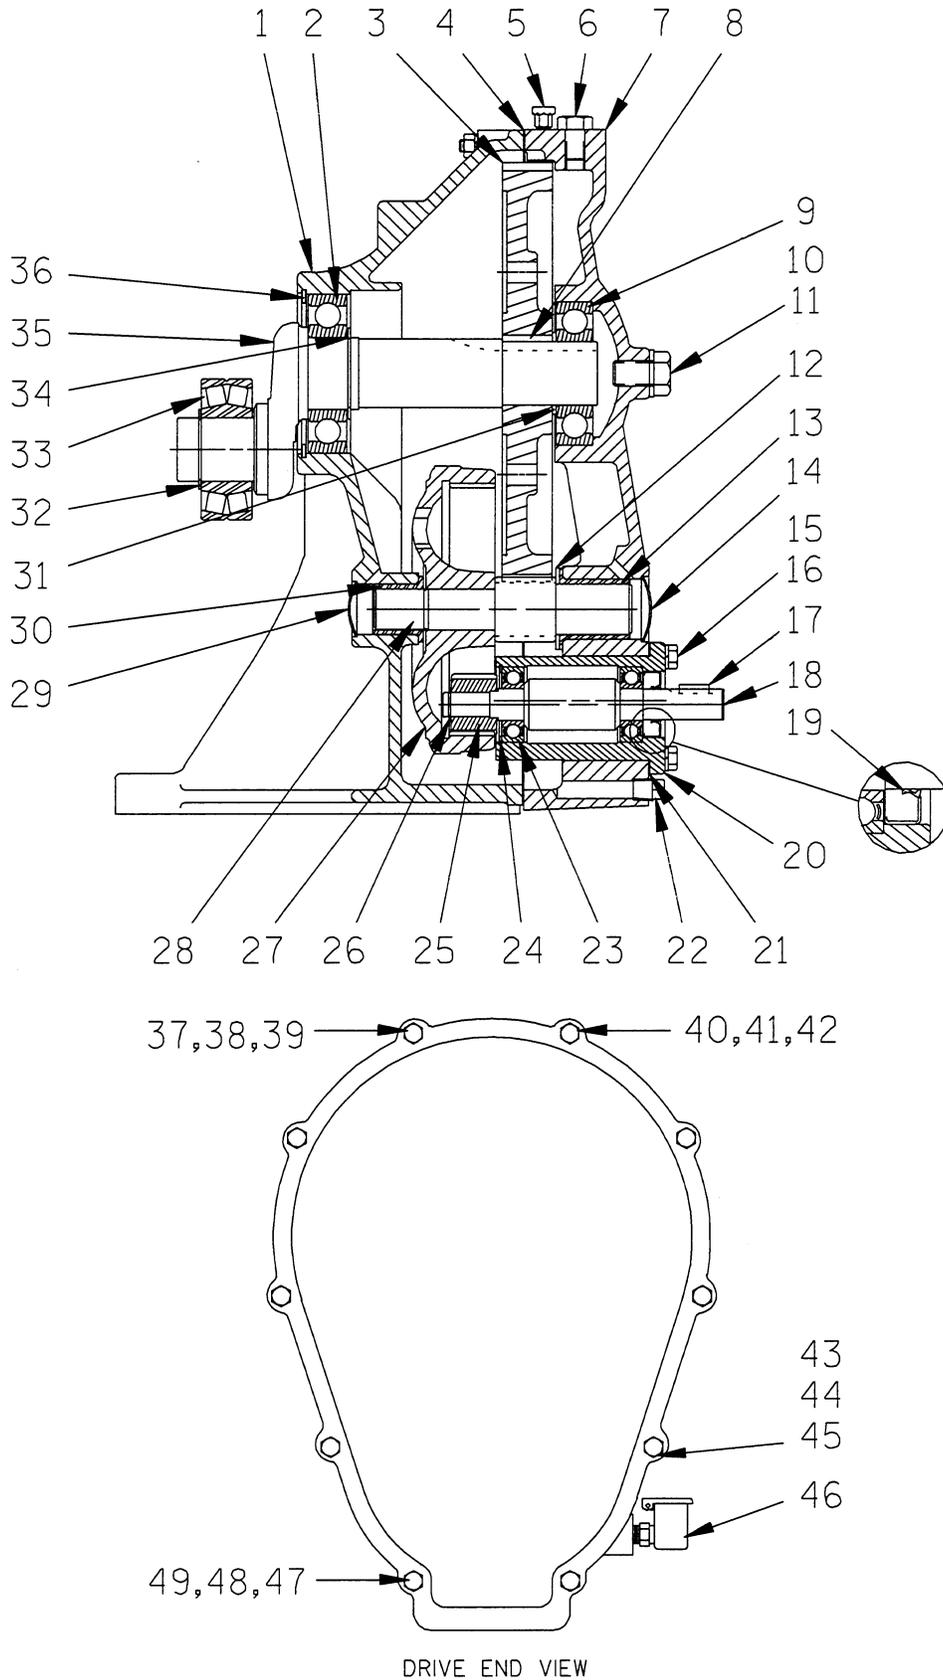

Figure 5. 44161-010 Gearbox Assembly
(33, Figure 5), and remove the plunger rod assembly.
Disengage the hardware (17, 18, 19 and 20, Figure 1 or 34, 35, 36, 37, Figure 2) and remove the coupling guard (2). Loosen the hardware securing the coupling (3, Figure 1 or 18, Figure 2). Separate the gearbox assembly from the coupling by pulling straight away. Remove the shaft key (17, Figure 5).
(Figure 5)